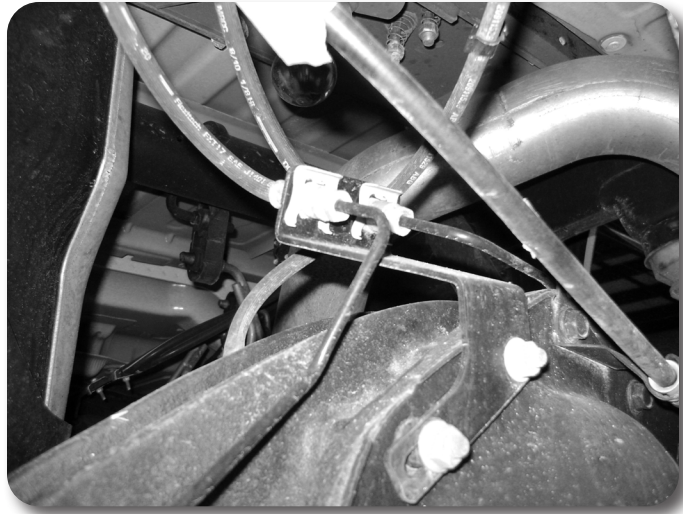

Figure 9
8. Locate the brake line bracket at the top of the differential. Using an adjustable wrench carefully bend the bracket upward so that ends of the rubber brake lines point toward the frame. **Figure 9, 10** Carefully adjust the brake hardlines that run along the axle.